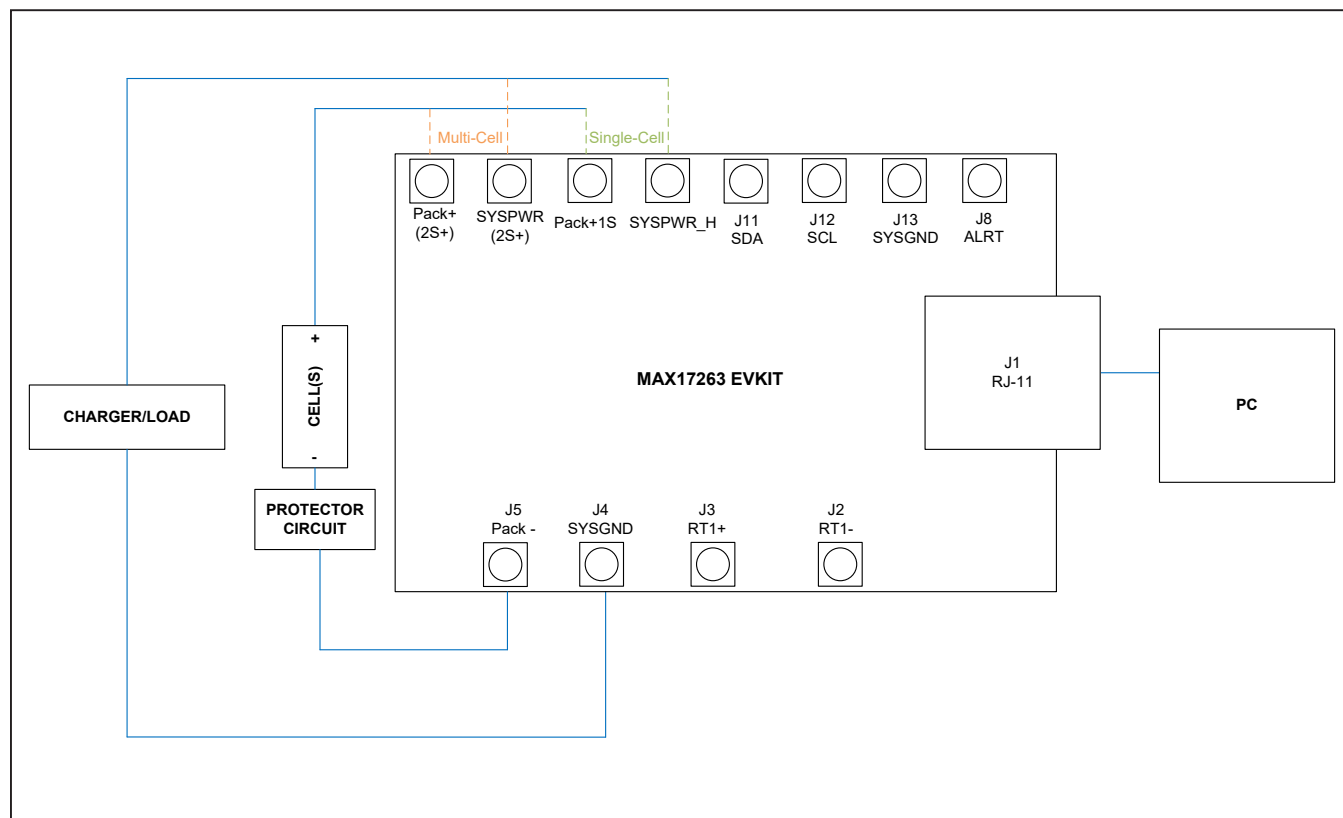

Figure 1. MAX17263 Board Connections
- 5) Make connections to the EV kit board based on cell pack configuration as shown in Figure 1. The load or charger circuit can be connected at this time as well.